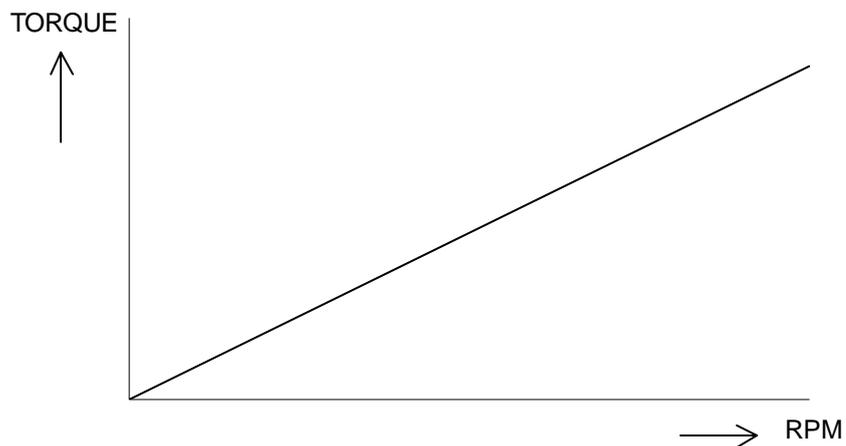
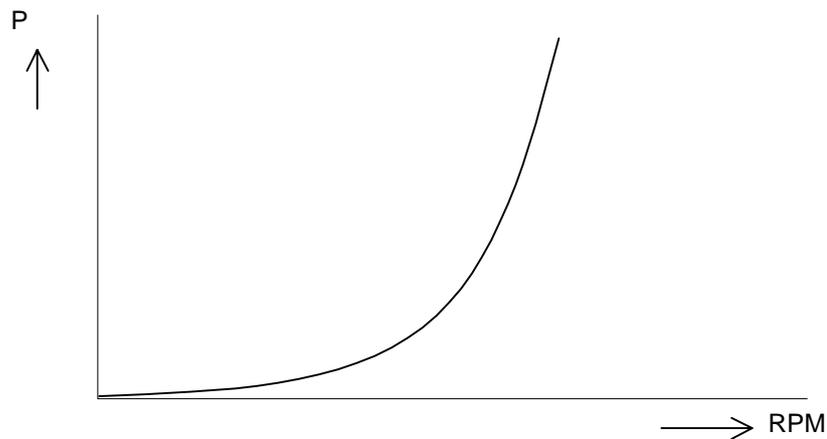

Fig 3: Linear ergometry
Fig 4: Linear ergometry (RPM dependent)
Linear Ergometry: RPM dependent ergometry. The linear relation is determined by the relation between the torque (T) and the pedaling speed (RPM) (see Fig 3). As a result of this linear relation the workload (W) is RPM dependent (see Fig. 4 Linear ergometry). This means the faster the test subject is cycling, the higher the delivered workload. The linear braking principle is usually used in mechanical ergometers.